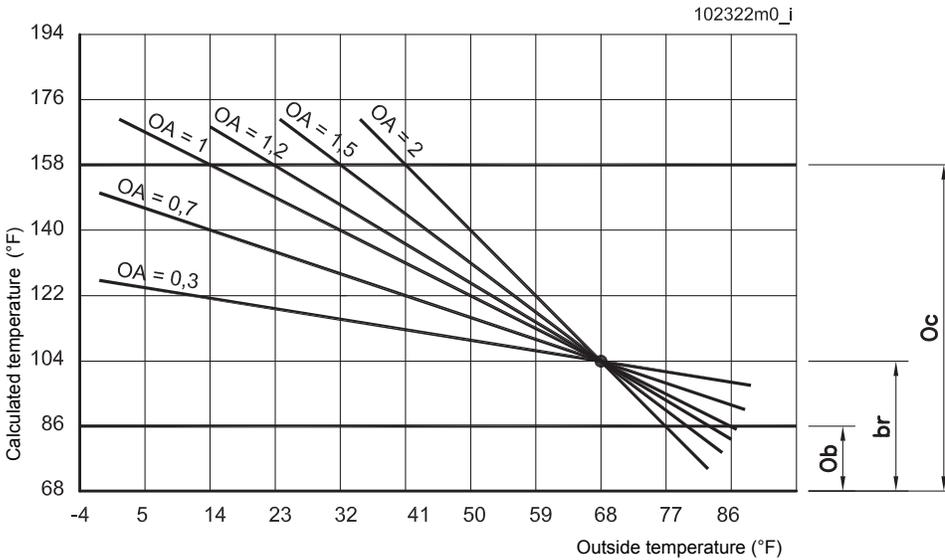

Figure 13-2 - Graph of the outdoor reset adjustment (influence of parameters “br”, “OA”, “Ob” and “Oc”)
While in the “Installers’ Menu”, set the **CH** parameter to 01. In this mode the heating supply water temperature, calculated temperature in Figures 13-2 and 13-3, will be adjusted automatically based on the input from the outdoor temperature sensor. The relationship between the outdoor temperature and the supply water temperature, corresponds with the graphs shown in Figures 13-2 and 13-3. In order to change the relationship between the supply water temperature and the outdoor temperature, all the parameters listed in the sections below must be set.
When making adjustments to change the supply temperature, it is advisable to first set the suggested default values for the desired curves shown in figures 13-2 and 13-3. If these default values do not produce a satisfactory result, then proceed to make the appropriate adjustments bearing in mind that:
The default values previously suggested are for boilers using an outdoor temperature sensor installed in dwellings with average heat loss in areas where the design outside winter temperature is 23 °F (-5°C). In the event that the climatic zone is different, adjust the parameter **OR**, to obtain a calculated temperature of 176 °F (80 °C) for the typical design outside winter temperature, see Figure 13-2.
13.17) set the **CH** parameter to 02. The system will function exactly as described in the previous “Outdoor reset adjustment” sections except that now the boiler pump will stay on permanently. The opening of the room thermostat contacts will translate into a parallel downward movement of the curve in Figures 13-2 and 13-3. The value by which the curve moves downwards can be adjusted by the